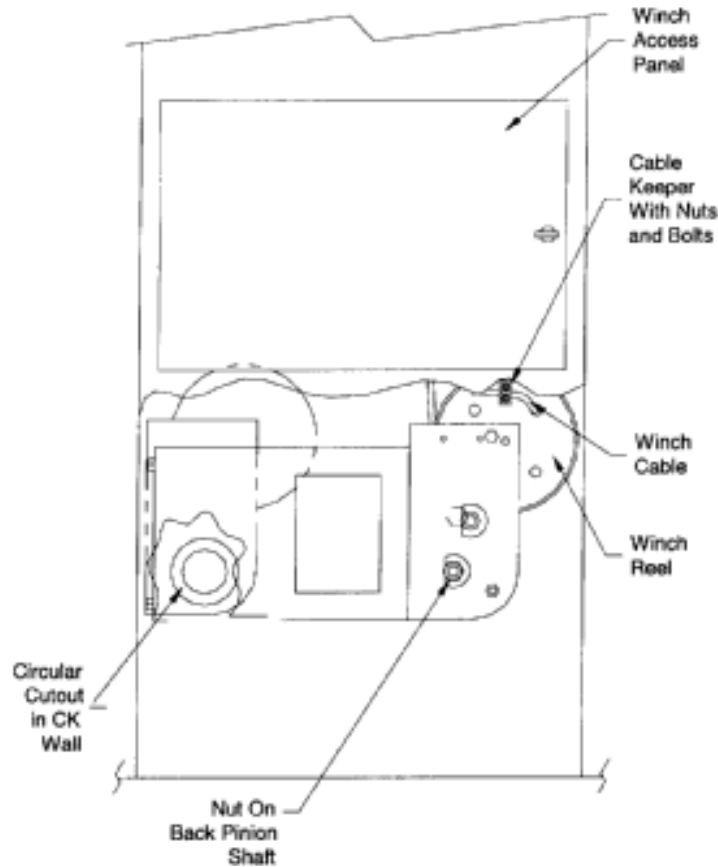

Figure 3. Preparation Side CK Winch Installed/Cable.
5. Place the winch assembly on the CK floor. Remove winch handle, winch socket, and winch socket hex screw and retain for installation of the replacement winch. Use a 7/16" socket on the hex head screw, while securing the pinion shaft to hold it steady (refer to Figure 3). Twist off the winch socket and retain for installation on the new winch assembly.
6. Refer to Figure 3. Manually unwind the cable completely from the reel and expose the hex nuts. Remove the two hex nuts from the cable keeper that secures the winch cable to the outside of the reel. Retain nuts, carriage bolts and cable keeper. Pull the winch cable from the winch reel and place cable on the floor of the CK. Do not allow the cable to become tangled or kinked.